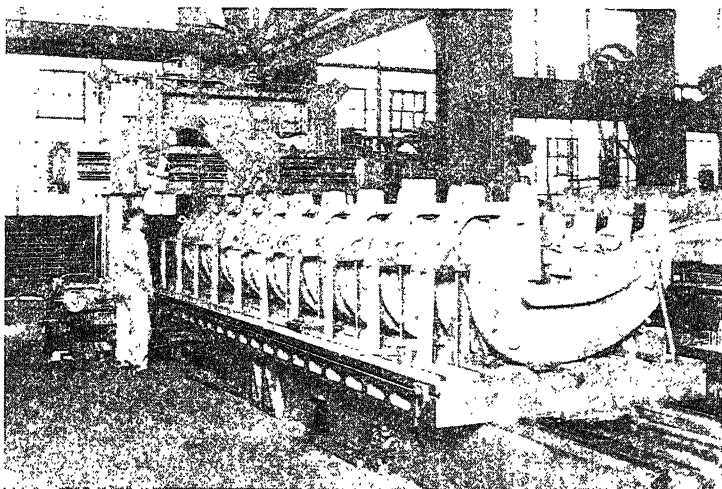

FIG. 5.—An angular cut on a "string" of punch-press bodies. (Courtesy of Cincinnati Planer Company.)
*The Planer.*—The planer (Fig. 5) is a machine tool used in the production of flat surfaces on pieces too large or too heavy or perhaps too awkward to hold in a shaper. In this machine the table or "platen" on which the work is securely fastened